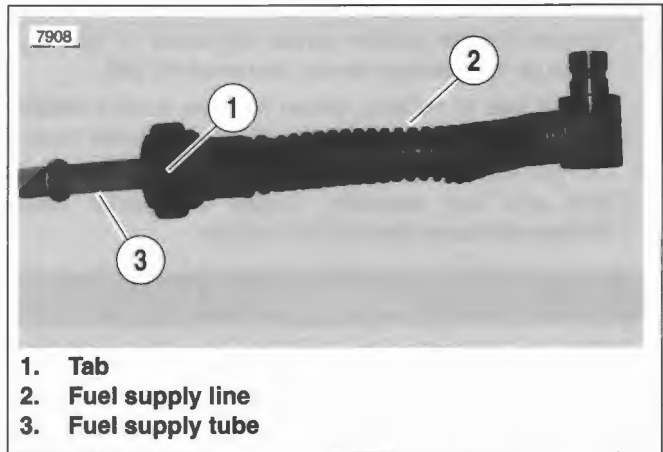

Figure 4-23. Fuel supply line
11. See Figure 4-23. If fuel supply line (2) is being replaced, depress tab (1) and pull to release from fuel supply tube (3).
3. See Figure 4-23. Slide fuel supply line (2) onto fuel supply tube (3).